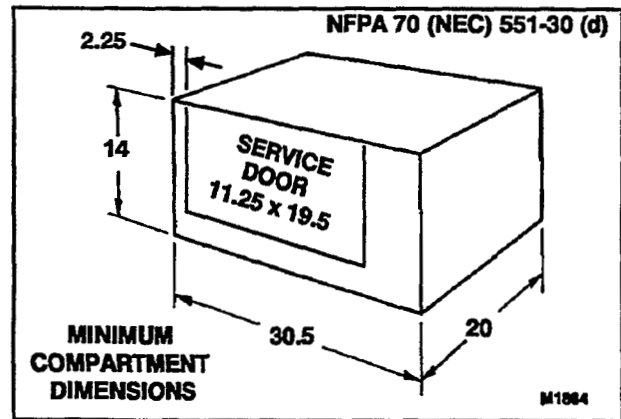

FIGURE 3-3. COMPARTMENT DIMENSIONS
1. Carefully measure the compartment size to make sure there will be proper clearance for the generator set. Figure 3-3 shows the compartment dimensions. Add 1/2 inch to compartment depth if 1/2-inch insulation is used inside the door. Allowing one to two inches of added space on the left side of the compartment will make electrical and fuel connections easier.